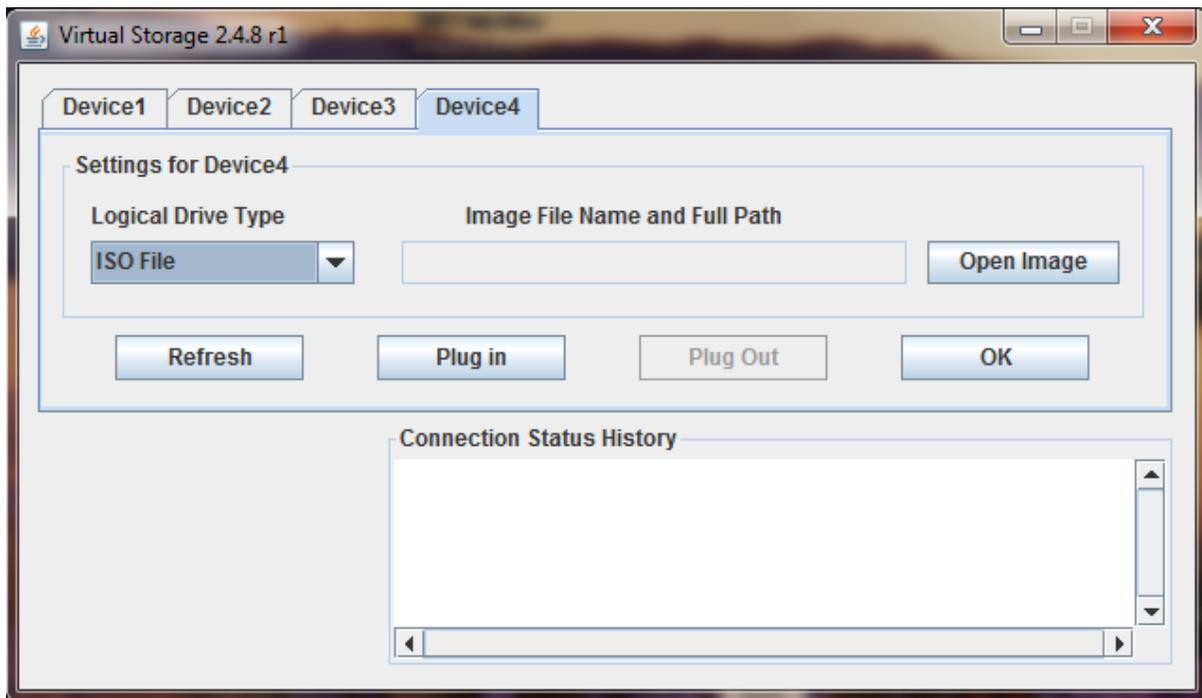

Figure 18. Remote Console Virtual Storage Menu
- **Virtual Storage** – Allow starting/stopping remote media redirection as shown in Figure 18. Redirect up to four devices at the same time. Select a logical device from a local CD-ROM/DVD drive or an ISO image on the local client file system as a virtual CD-ROM device on the remote system; a local floppy drive; a USB key drive; or a floppy disk or USB key image (. IMA/ . IMG) file on the local client file system as a virtual floppy device on the remote system.